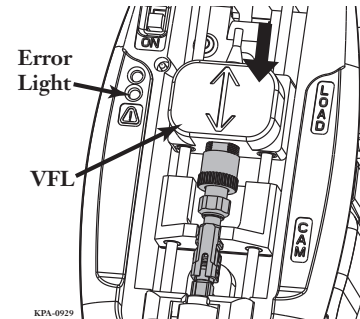

Figure 63 — Seat Connector in Ferrule Adapter
Step 3: Slide the VFL Coupler down until the Ferrule Adapter is completely seated on the connector (Figure 63).